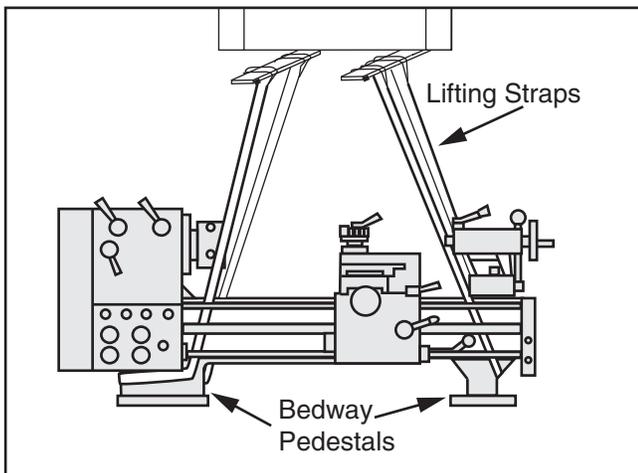

Figure 17. Example of lathe set up for lifting.
- Wrap two lifting straps (see **Figure 17**) around bedway pedestals and route behind feed rod and leadscrew. Then attach them to safety hook or forks). This will keep lifting straps away from critical components and prevent damage to them during lifting.